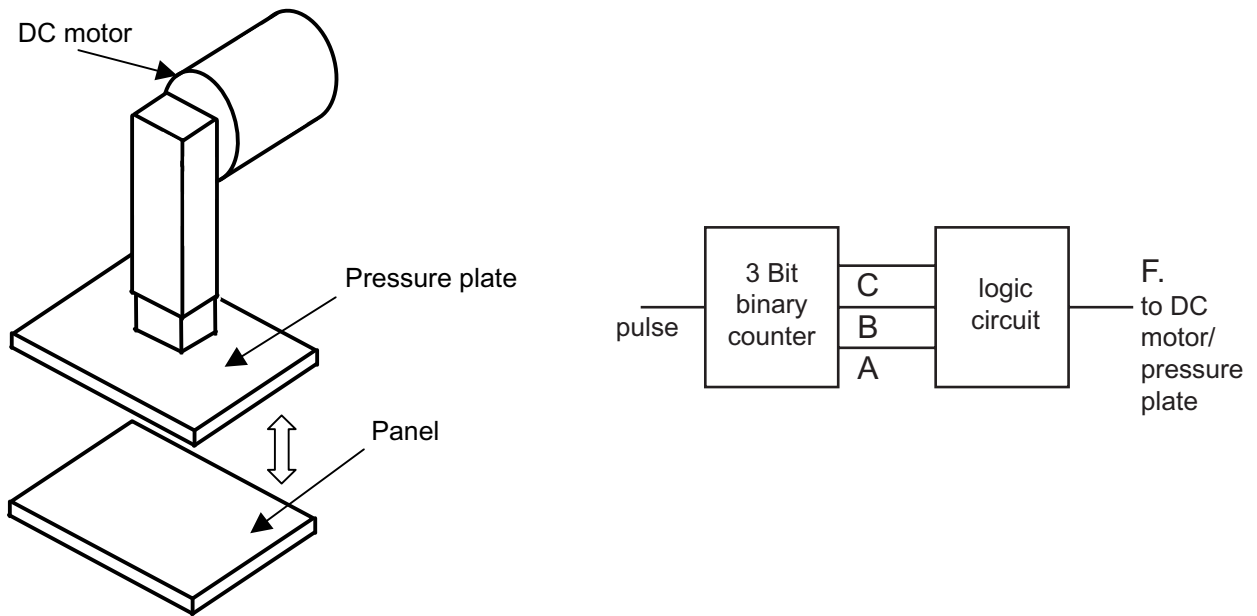

Fig. 2(a)
- 2 An industrial printing process used to apply a reflective coating to metal panels is shown in **Fig. 2(a)**. The process consists of an eight stage sequence controlled by an output from a 3 bit binary counter with outputs A, B and C, where A is the least significant bit. A signal is required to control a 24VDC motor at stages 3, 4, 6 and 7 where a high output from the logic circuit shown in **Fig. 2(a)** will activate and release the pressure plate.